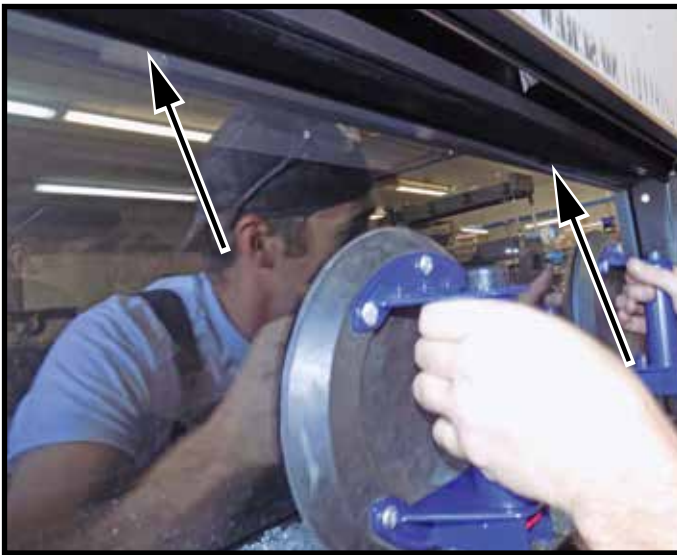

Figure 41: Raising top edge into the inner upper slot.
5. Once the lower edge has been inserted into the gap, tilt the glass plate forward and raise the upper edge into the upper inner slot (Figure 41).